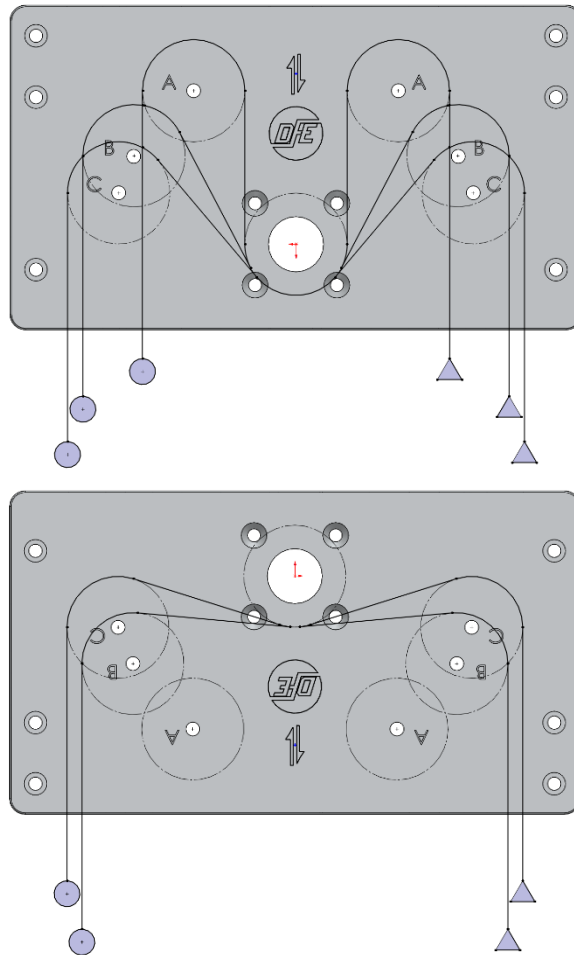

Figure 7 –CALIBRATION WEIGHT POSITION FOR EACH WEB PATH
1. See Figure 7. Pass the rope over the idler pulleys and under the load cell pulley (located in the center position). Anchor one end to a stationary object. Attach the calibration weight to the free end of the cord or rope and let it hang without touching anything.